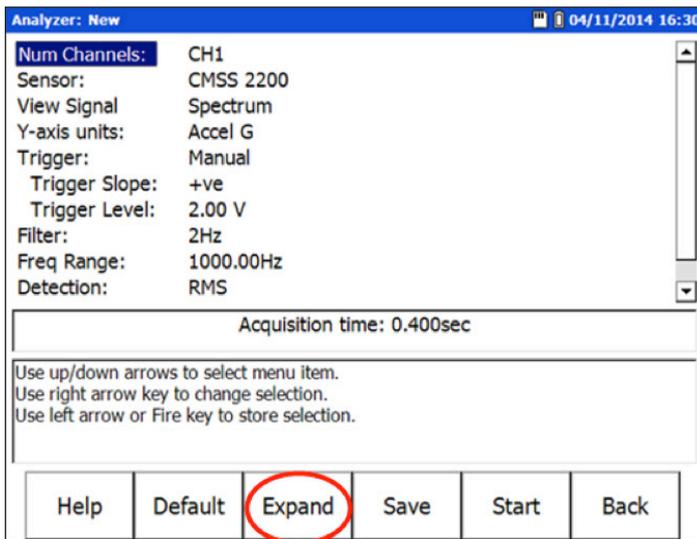

Figure 9. Analyzer module function “Expand”.
- First choose “**Expand**” to open all of the existing settings (**Figure 9**).